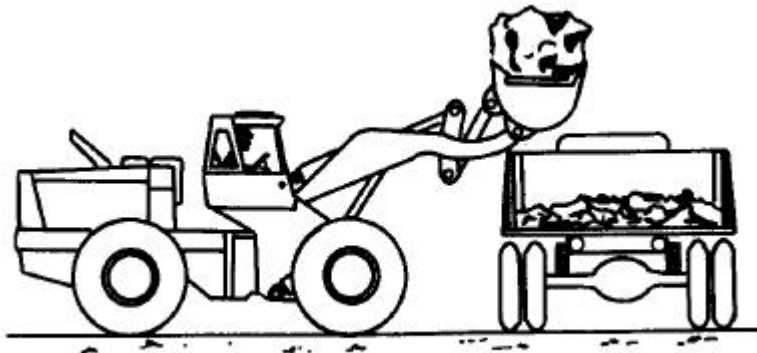

Fig. 4.50. Dumping Large Rocks Into Truck
- 10. Put enough loose rock or dirt into the truck first to act as cushioning material before proceeding to load larger rocks (Figure 4.50). Place large rocks into the center of the truck from the lowest possible height.